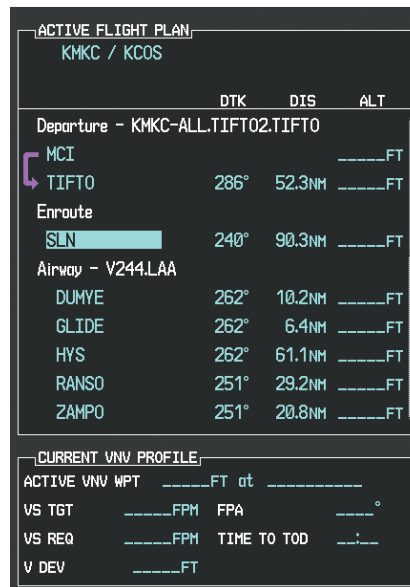

Figure 5-103 Begin Adding V4 to the Flight Plan
- b) The desired entry point for V4 (TOP) must be entered. Turn the large **FMS** Knob to highlight the desired flight plan insertion point (SLN) as shown in Figure 5-103. When the V4 entry point (TOP) is inserted, it is placed immediately above the highlighted waypoint (SLN).